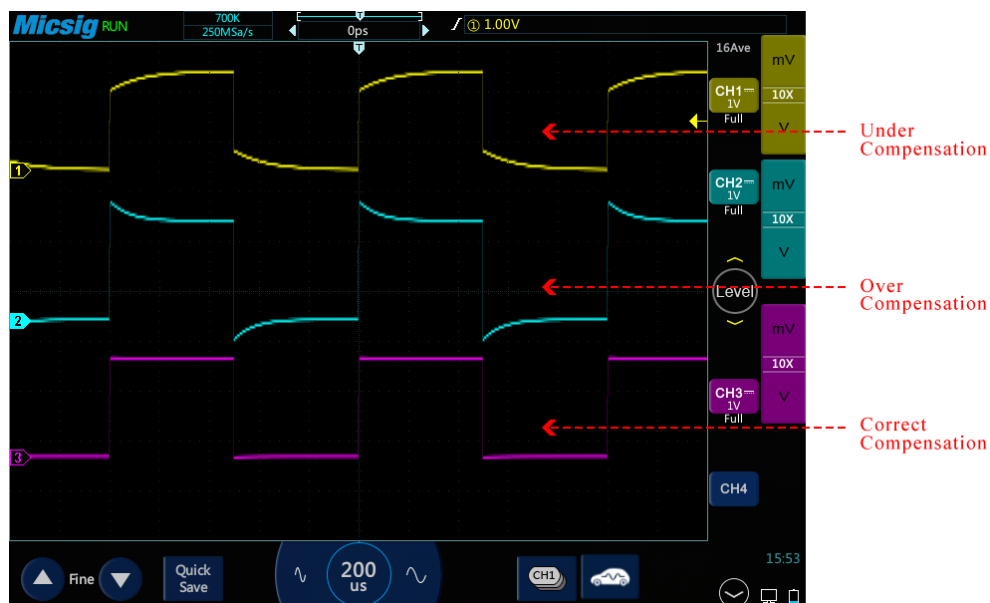

Figure 2-13 Probe Compensation
- 5) Tap Auto button or manually adjust the waveform vertical sensitivity and horizontal time base. Observe the shape of the waveform, see Figure 2-13.